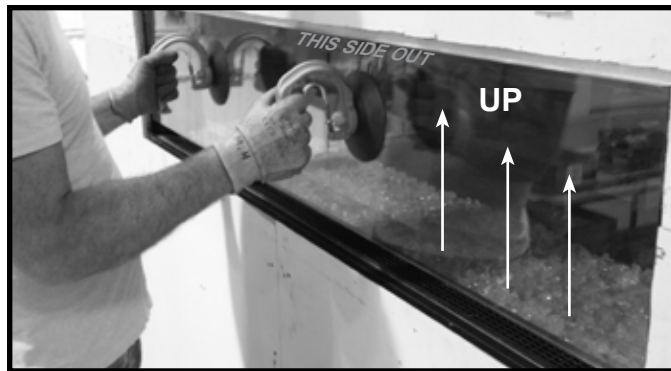

Figure 4.1 Slide Barrier Glass Up
2. Slide glass straight up behind finishing material. See Figure 4.1.